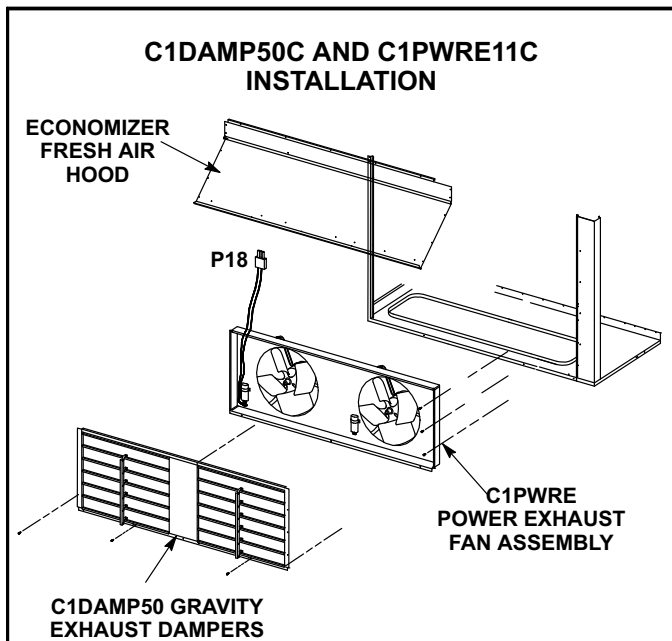

FIGURE 29
C1DAMP50C dampers (figure 29) are used in downflow and LAGED(H)18/24 are used in horizontal air discharge applications. LAGED(H) barometric relief / gravity exhaust dampers are installed in the return air plenum. The dampers must be used any time an economizer or power exhaust fan is applied to KCA series units.
C1PWRE11C power exhaust fans are used in downflow applications only. The fans require optional downflow barometric relief / gravity exhaust dampers and K1ECON economizers. Power exhaust fans provide exhaust air pressure relief and also run when return air dampers are closed and supply air blowers are operating. Figure 29 shows the location of the C1PWRE11C. See installation instructions for more detail.